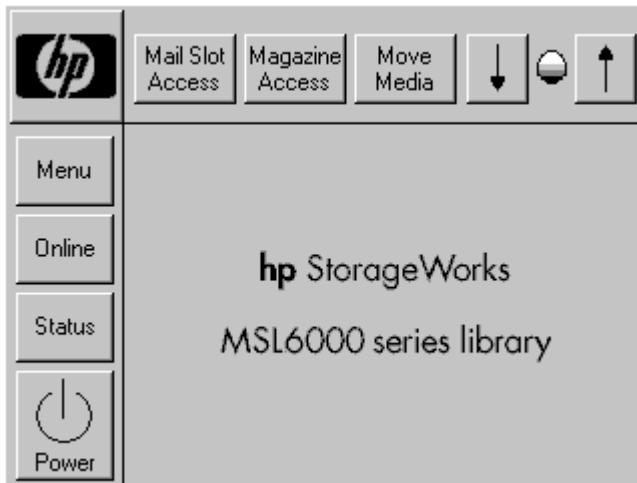

Figure 25: Library home screen (MSL6000 shown)
1. Using the Graphical User Interface (GUI) touch screen on the master library, touch the **Menu** button from the **Status** screen (see Figure 25). Refer to the *HP StorageWorks MSL5000 and MSL6000 Series Tape Library User Guide* for instructions on how to operate the GUI touch screen.
1. Using the GUI touch screen on a standalone library in a rack enclosure, touch the **Menu** button from the **Status** screen (see Figure 25 on page 49).